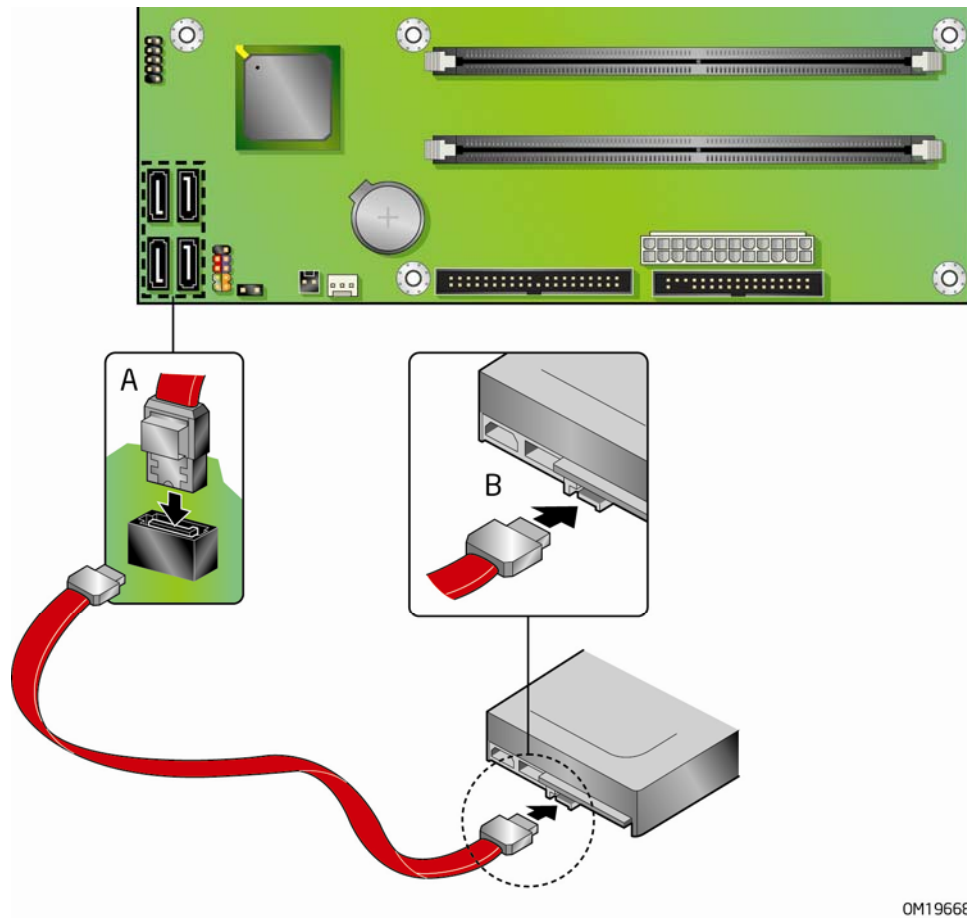

Figure 19. Connecting the Serial ATA Cable
2. Attach the locking cable end to the connector on the board (Figure 19, A).
3. Attach the cable end without the lock to the drive (Figure 19, B).